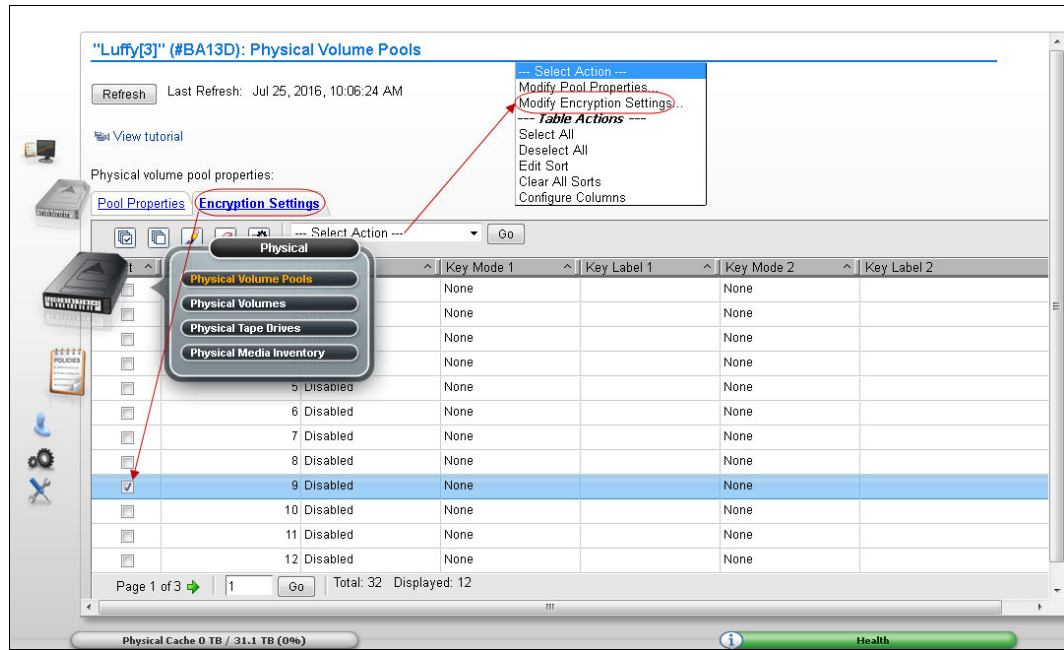

Figure 9-166 Modify encryption parameters for a pool
1. Open the Physical Volume Pools window (Figure 9-166).